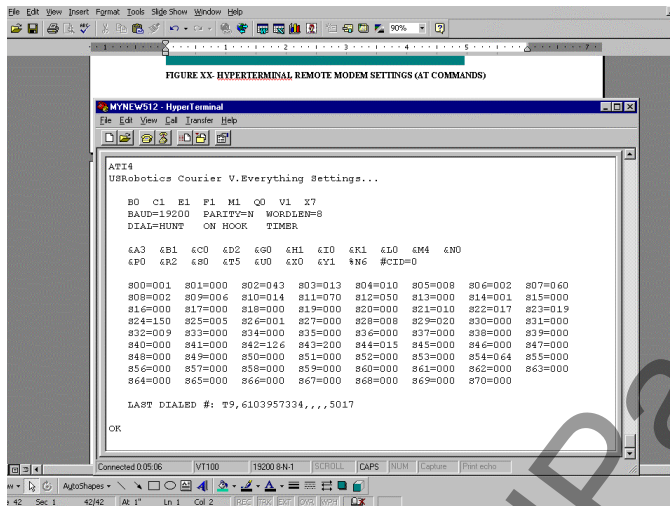

Figure 37 – Local Modem Configuration Parameters
5. Once the OK pushbutton is depressed, the screen depicted in Figure 37 is presented to the operator. AT commands can now be typed to configure the modem with the appropriate parameters for operation in this system.
Local Modem parameters are illustrated in Figure 37. To display the current list of parameters, the command string AT&I4 should be typed in the HYPERTERMINAL environment. A list of the parameters used is shown. The LOCAL modem also may be configured via the dipswitches located underneath the relay.